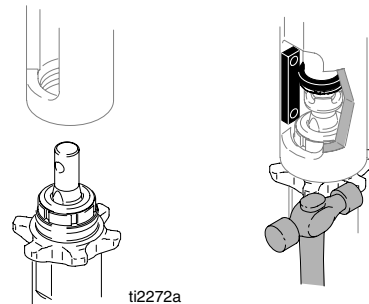

Fig. 14
2. Fig. 14 – 16. Install pump.
1. Fig. 14. Screw jam nut to bottom of pump threads. Screw pump completely into manifold. Unscrew pump from manifold until pump outlet aligns with hose. Hand tighten jam nut, then tap 1/8 to 1/4 turn with hammer or torque to 200 ft-lb (270 N-m).